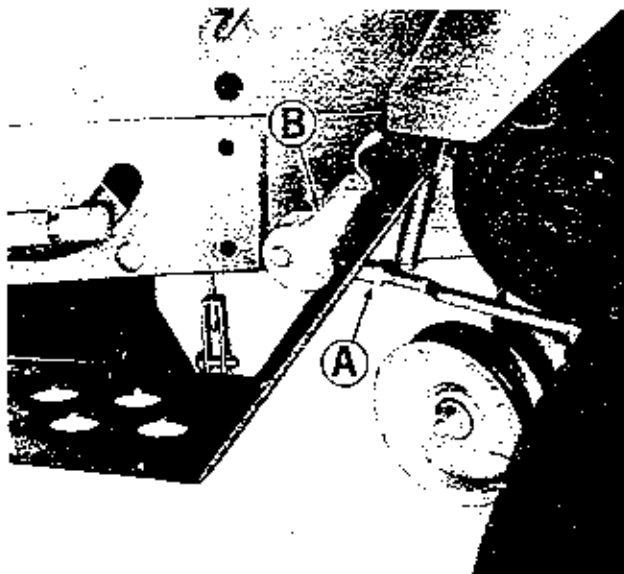

Figure 14. Parking brake adjustment on left side of tractor.
1. See figure 14. **NOTE: ALL DIRECTIONS GIVEN FOR ADJUSTING THE PARKING BRAKE, ARE AS IF YOU ARE STANDING AT THE FRONT OF THE TRACTOR LOOKING BACK TOWARD THE PARKING BRAKE.** Loosen nut (A) by turning it clockwise.
2. See figure 14. After insuring the tractor is either on a level surface or the wheels are blocked so it will not roll, pull forward on the parking brake handle (B) to disengage the parking brake.
3. Rotate parking brake handle (B) clockwise to tighten the parking brake, or counter-clockwise to loosen it. Turn the brake one complete revolution when making any adjustment. After turning the handle (B) one revolution place it in the engaged position to check it for correct adjustment. The correct engaged position is as shown in figure 14, with the handle at approximately the one o'clock position as you face it from the front of the tractor.
4. After the correct adjustment has been made, use a wrench to tighten nut (A) securely by turning it counter-clockwise.